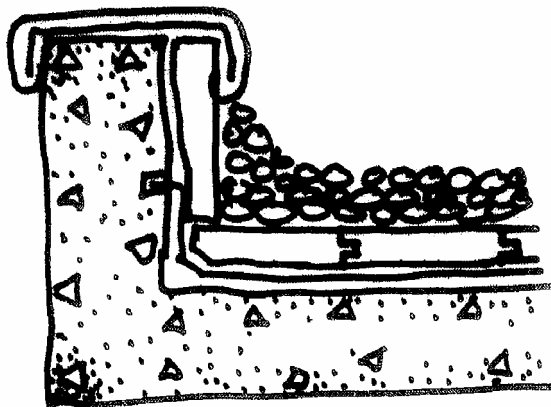

Figure 10.48 – Insulation taken up against parapet
- ❖ **Preferably take insulation up against parapets.** *Fig10.48*